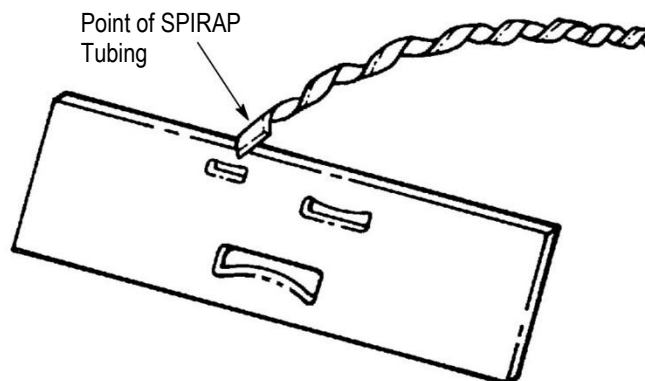

Figure 2
3. Hook point of SPIRAP tubing over the edge of tool near slot to be used. See Figure 2.